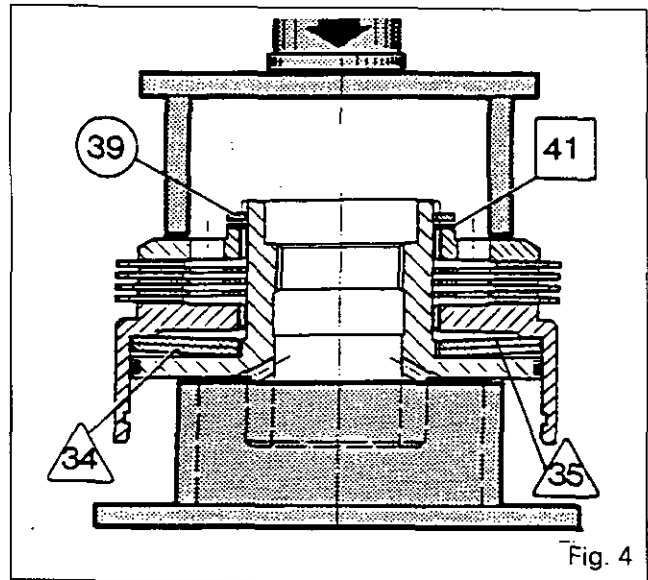

Fig. 4
18. Remove the circlip (6) and take off the pinion (7).
19. Separate the transfer gear (15) from the clutch assembly (16).
20. Remove the circlip (31).
21. Remove the cover (30).
22. Remove the O-rings (29) and (32).
23. Compress the Belleville washers /34\ and /35\ with a press and a suitable device (Fig. 4).
24. Remove the circlip (39) and the shim(s) [41] (Fig. 4).
26. Take off the cover (38), the outer plates (36) and the inner plates (37).
Using a press and a suitable device, exert a force of 2000 daN to compress the Belleville springs /34\ /35\ (Fig. 4).